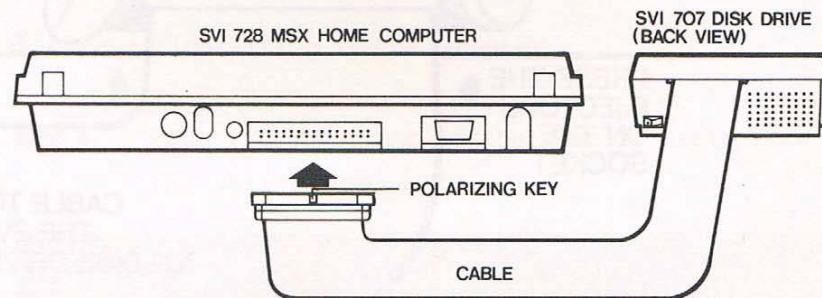

Figure 1 Connecting the Disk Drive to the Computer
- Step 2.** Position the disk drive cable so that the polarizing key on the connector is on top (see figure 1). Connect the cable to the Expansion Module Interface socket at the back of the computer.